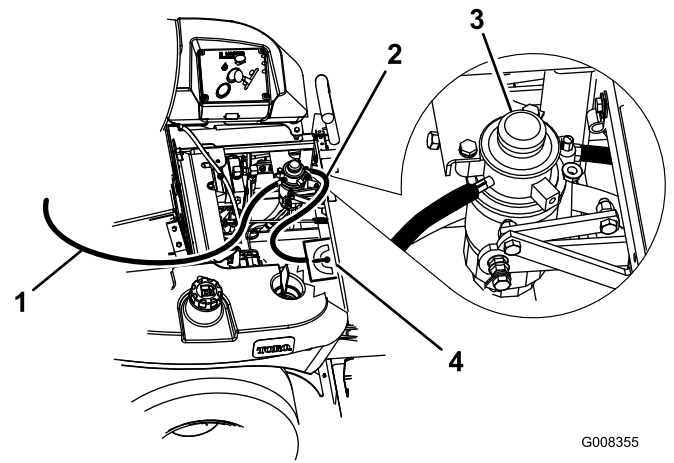

Figure 2
8. Locate the hose between the water separator and the fuel selector valve. Remove the fuel hose from the fuel selector valve (Figure 2).
9. Locate the hose between the water separator and the fuel selector valve. Remove the fuel hose from the the engine (Figure 2). Remember the location where the fuel hose was connected to the engine.